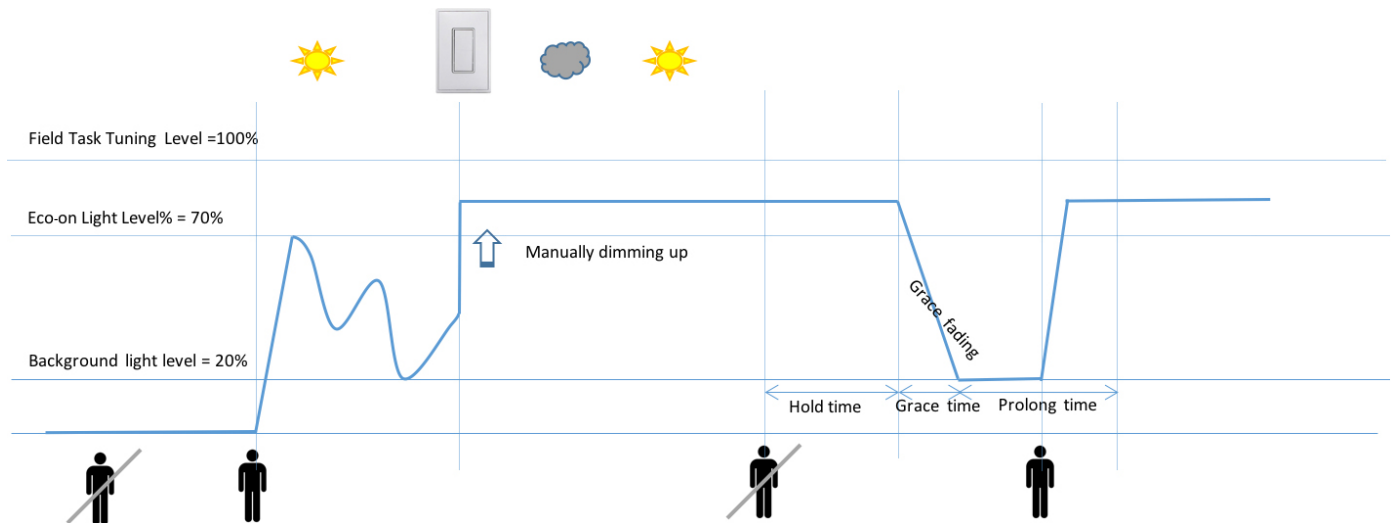
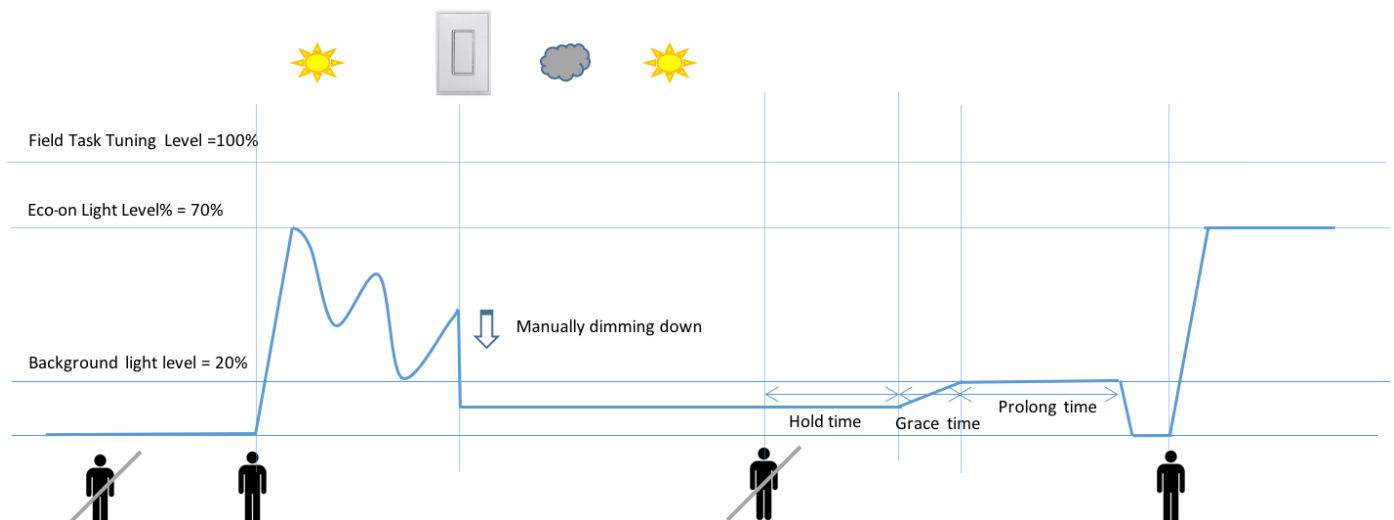

Figure 10. Auto-on/auto-off with manual dimming override.
Figure 11. Auto-on/auto-off with manual dimming override.
- Light level can be set to an intermediate level by manual dimming override using the wireless switch. When a manual dimming override is performed, daylight-based control is disabled, and light will be on constantly at this level. When the room becomes unoccupied, the light goes to the background light level during prolong time, and if the occupant enters the room before prolong time expires (Figure 10), the light will stay at the level set by the manual dimming override. If the prolong time expires, the light will turn off and go to the eco-on level when occupant enters the room (Figure 11).